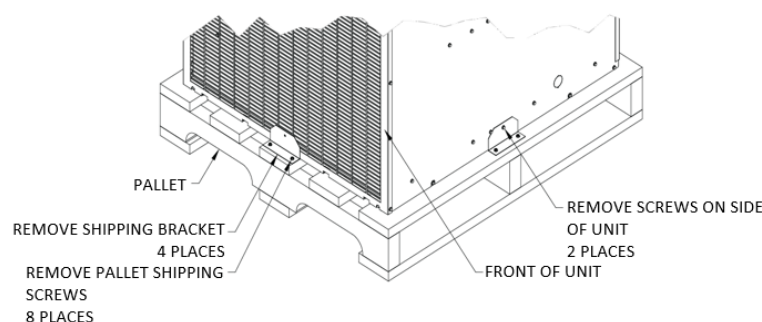
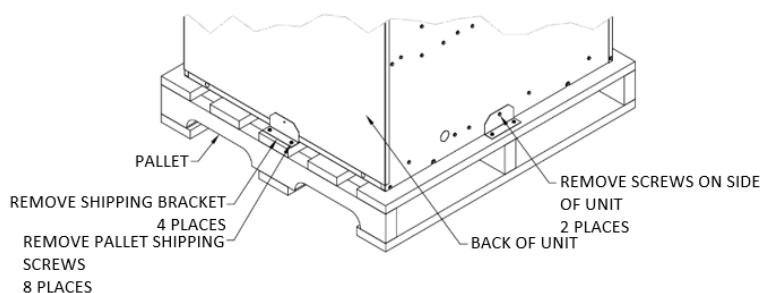

FIGURE 3 - Standard Packaging with Brackets - Front View
FIGURE 4 – Standard Packaging with Brackets - Back View
9. Ensure that the shipping brackets and screws are removed from the chassis section. Refer to **FIGURE 3- Standard Packaging with Brackets – Front View** & **FIGURE 4 – Standard Packaging with Brackets – Back View** for more information.
- a. Check that the gas manifold is firmly in place on the burner box and secured with the provided screws (4).